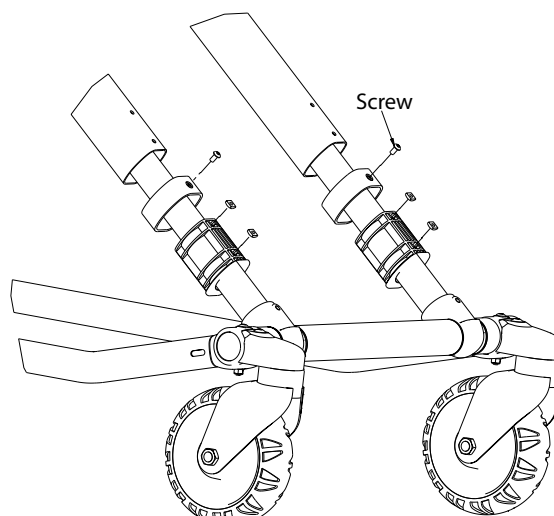

Figure 65
10. Remove the inner tube and save the tube bushings to reuse on the new tube (see Figure 65).
7. Using a T25 Torx driver, remove the two screws that secure the tube bearing (see Figure 65 on page 64).